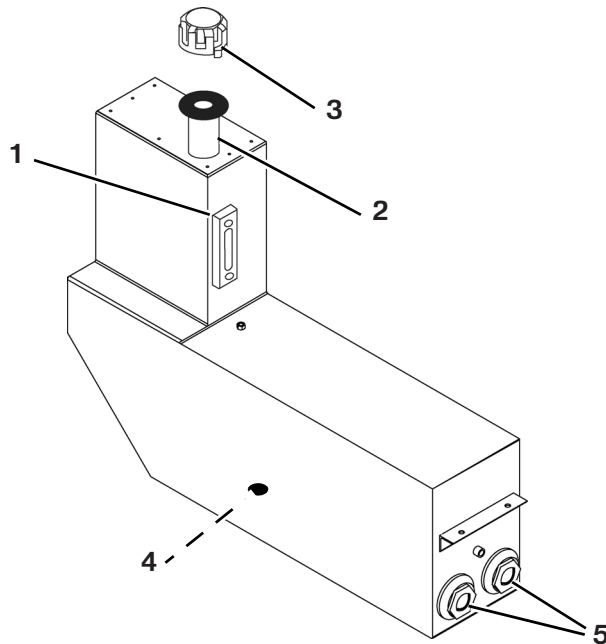

Figure 7-8
A 25 gallon hydraulic reservoir and filter(s) complete the Hydraulic System (Figure 7-8). This manual contains general system maintenance guidelines. Detailed service and maintenance information is available directly from the hydraulic component manufacturers.
The hydraulic reservoir is located on the right side of the LeeBoy Model Challenger V Broom. The fill cap is on top of the reservoir. The hydraulic reservoir has a sight gauge on the right side used to monitor hydraulic oil levels (Figure 7-8, 1).
1. Check the level of hydraulic oil prior to each day's operation of the broom. Hydraulic oil should be visible in the sight gauge (Figure 7-8, 1). If not, fill the tank until oil is visible in the sight gauge.
2. The fill cap strainer (Figure 7-8, 2) should be cleaned each time hydraulic oil is added or changed.
3. The filler cap (Figure 7-8, 3) should be padlocked, when possible, to eliminate tampering.
6. Drain and replace hydraulic oil and filter after the first 100 hours of service, and after every 500 hours of service or annually, whichever comes first. Drain the hydraulic oil by removing the plug (Figure 7-8, 4). For convenience, a customer supplied drain hose can be attached to drain fluid into a container.
7. The suction strainer (Figure 7-8, 5) should be removed and cleaned at the 500 hour service interval or whenever the hydraulic oil is changed.